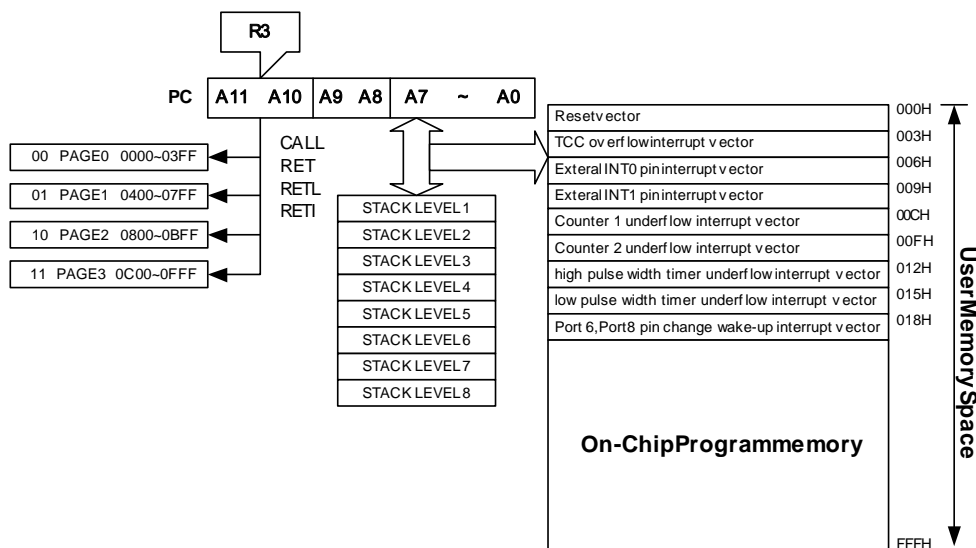

Fig. 6-1 Program Counter Organization
- The structure of R2 is depicted in Fig. 6-1, *Program Counter Organization*.